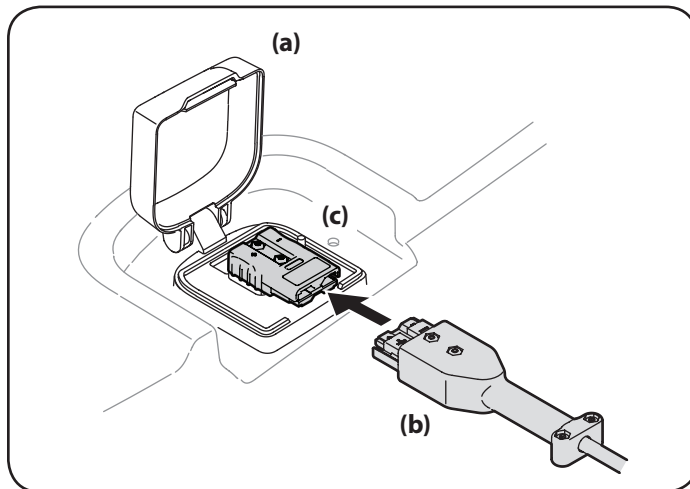

Figure 16
1. Lift the charge port door (a), located on the rear body panel of the tractor. See Figure 16.
2. Insert the charging cord (b) into the charge port (c). Plug charger cord (b) into wall outlet. See Figure 16.